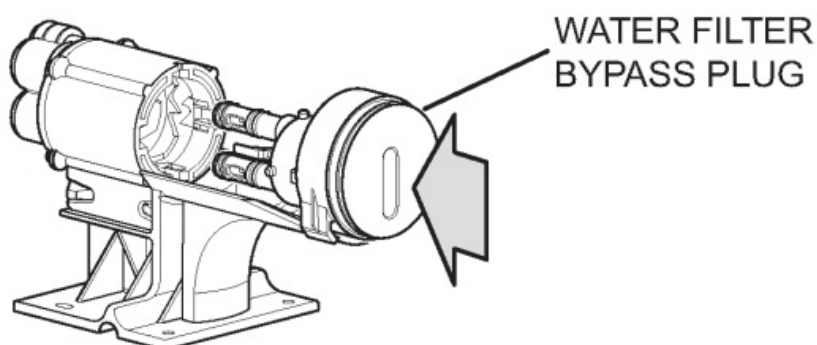

Figure 2-10. Water Filter Bypass Plug Installation
2. Install bypass plug by aligning it with the filter manifold, then push it in to engage the spring catch (See Figure 2-10).